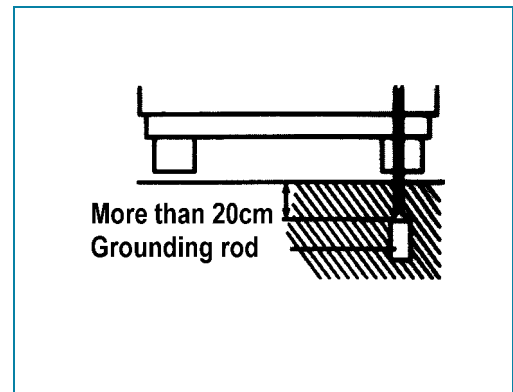

Fig.2
- For maximum security, attach the grounding wire to a copper plate or grounding rod and bury it at least 20cm in the ground like Fig2.